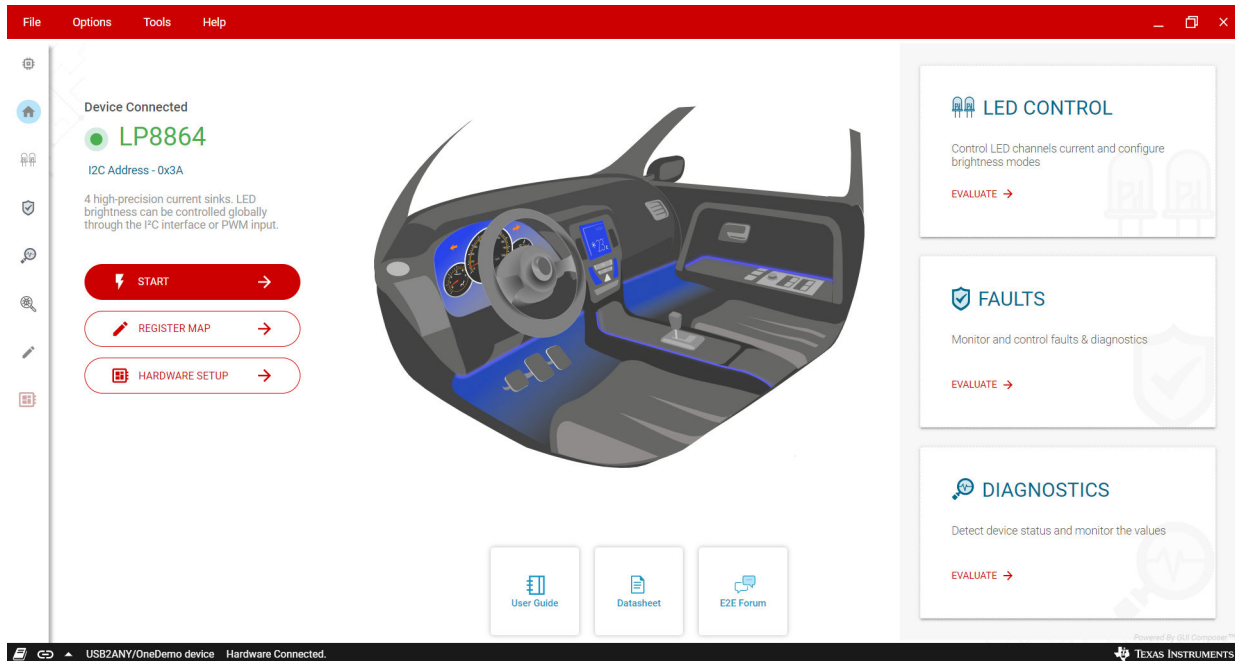

Figure 2-4. LP8864EVM GUI Home Page
3. Click the *EXPLORE LP8864* button to go to the LP8864EVM GUI home page (see Figure 2-4).